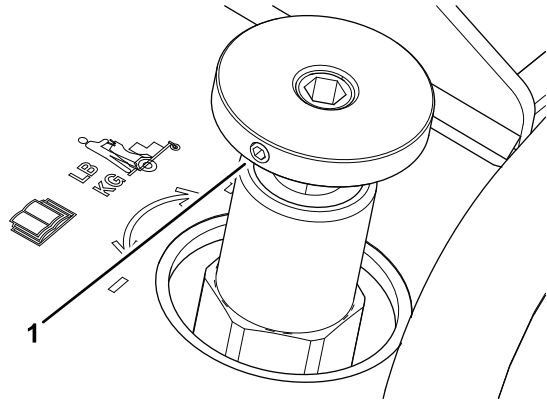

Figure 24
- If the machine raises and the ground tires are no longer touching, rotate the knob for the operator weight adjustment control counterclockwise (Figure 24) to lower the machine until the tires touch the ground.